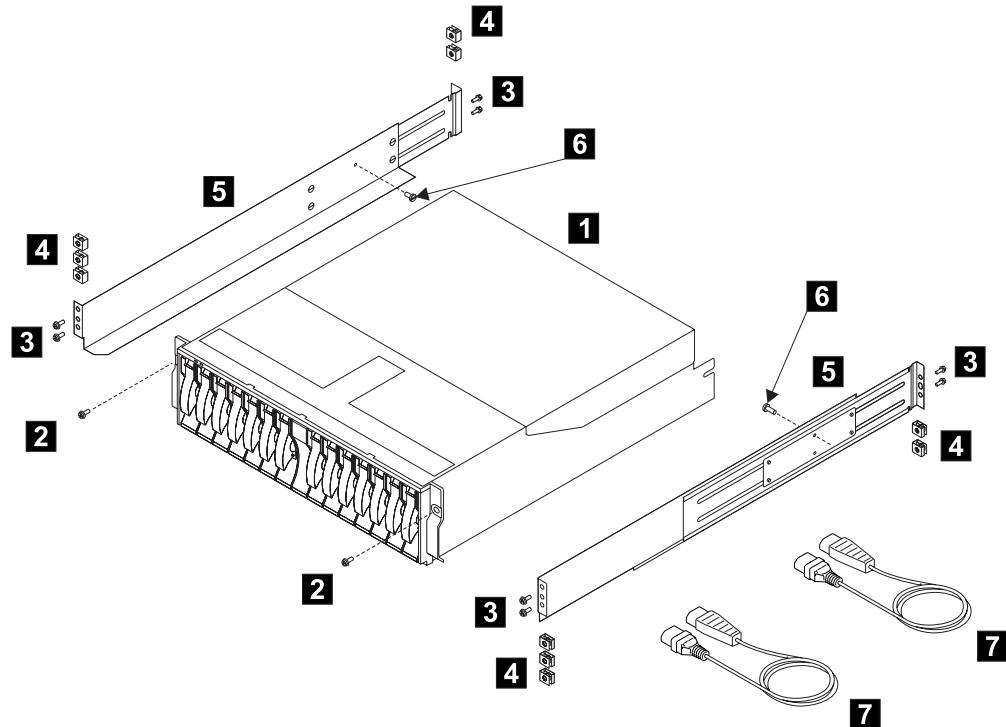

Figure 1. Items for the 2104 Model DU3
1. Refer to Figure 1.
1. Find the two support rails (**5** in Figure 1 on page 4) that are supplied with the 2104.
- Note:** These are the screws identified as **6** in Figure 1 on page 4.